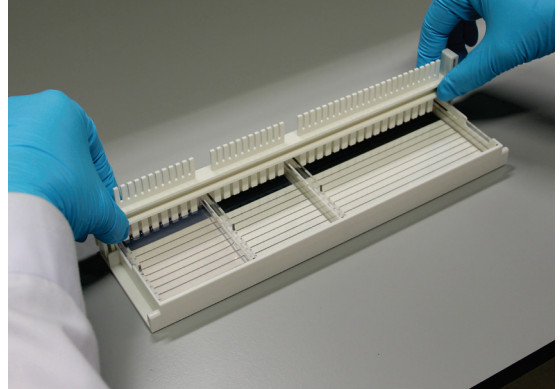

Fig. 3
2. Pull out the comb carefully from the solidified gel to form wells (Fig. 3). Place the gel in an electrophoresis tank.